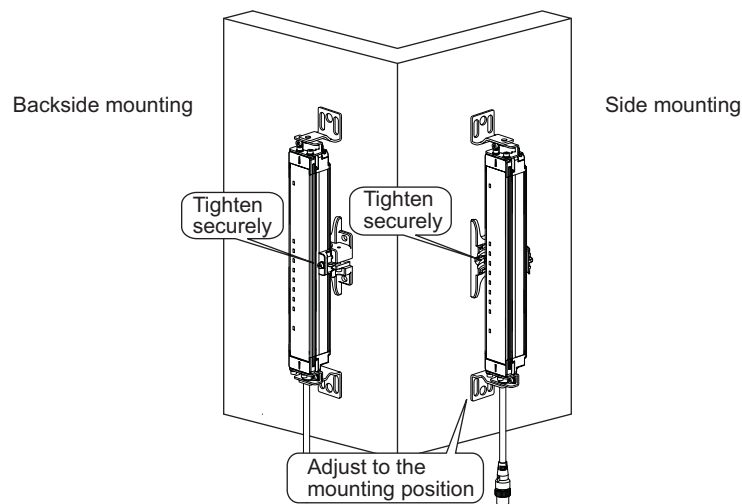

Figure 10
- 4.** Position the Top/Bottom Brackets and the Intermediate Brackets to the mounting location on the wall and tighten the hexagon socket head cap screws (M3 x 12). (Figure 10)